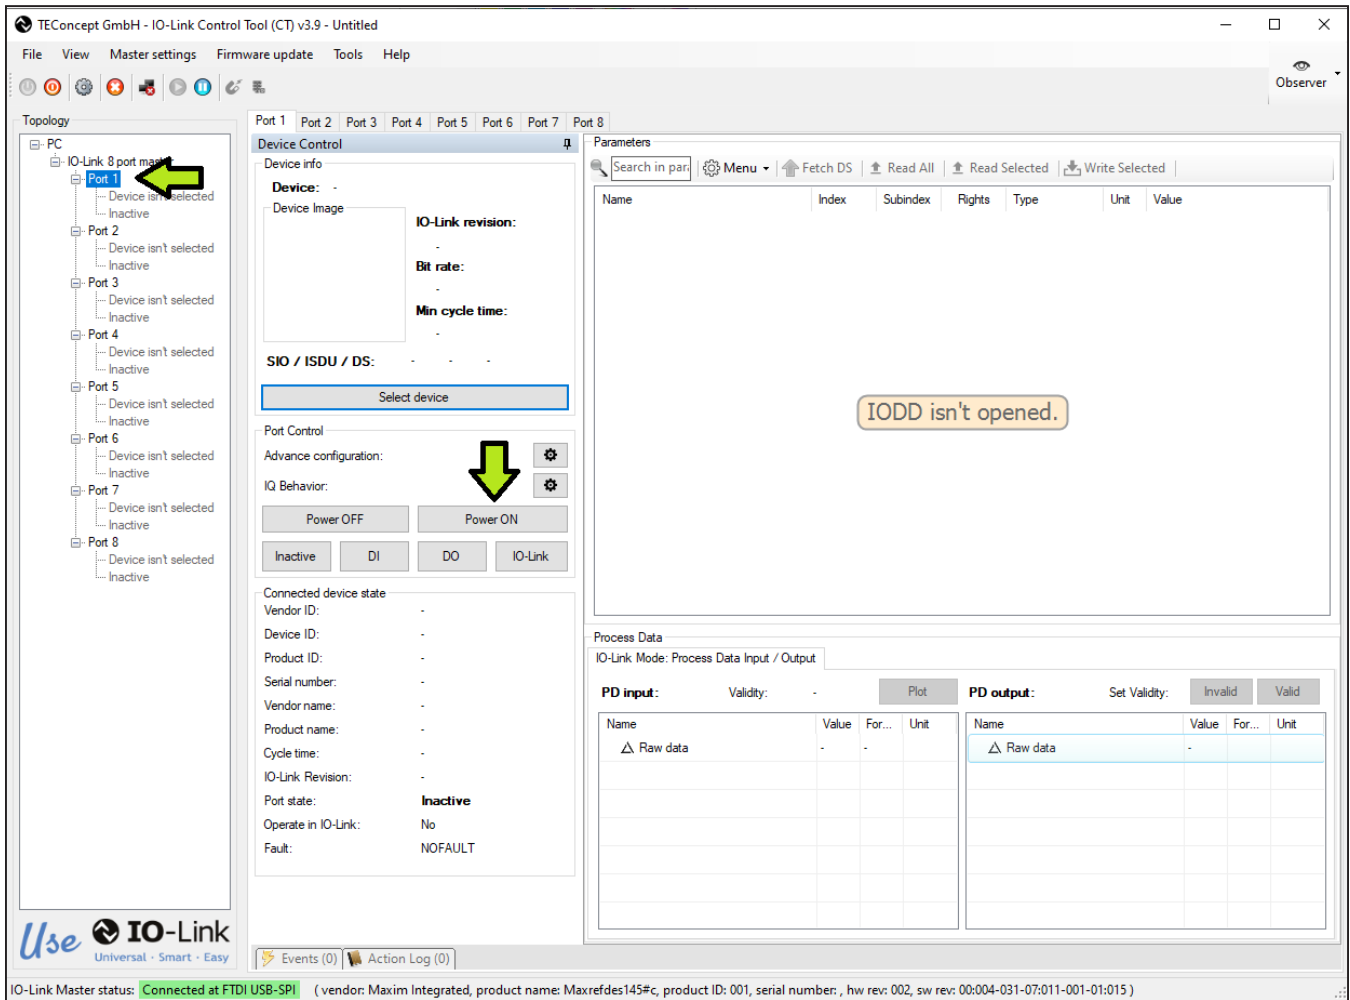

Figure 6. Port selections in the IO-Link Control Tool software.
- 6) As shown in Figure 6, in the **Topology** area, in the **Device Tree**, select the Port where the MAXREF-DES278# is connected to.